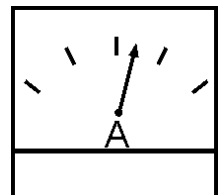

Figure 54. Ammeter (Load)
18. Observe the generator's ammeter (Figure 54) and verify it reads the anticipated amount of current with respect to the load. The ammeter will only display a current reading if a load is in use.